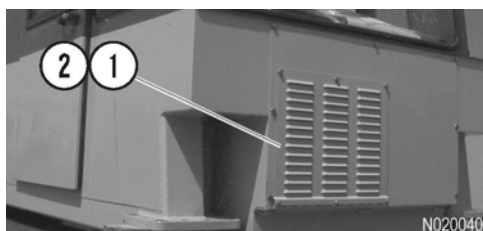

FIGURE 40-9.
18.	CAB AIR FILTER - Under normal operating conditions, clean every 250 hours. In extremely dusty conditions, service as frequently as required. Clean the filter element with mild soap and water. Rinse completely clean and air dry with a maximum of 275 kPa (40 psi). Reinstall the filter. Refer to Figure 40-9.